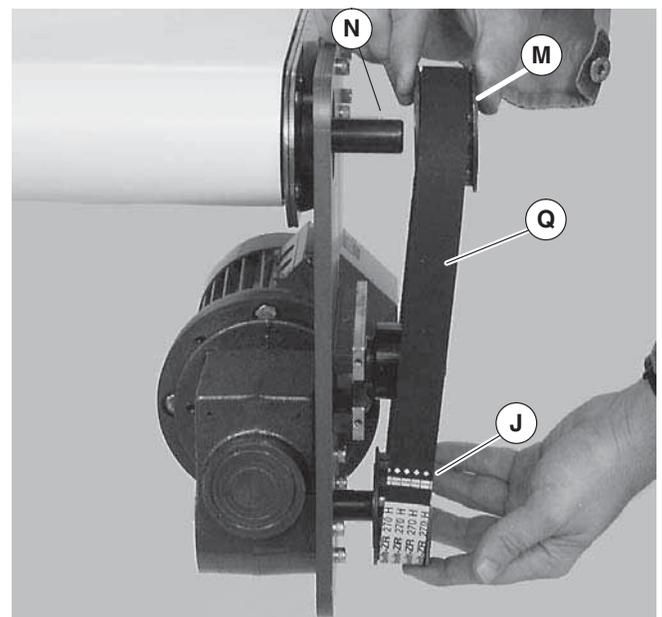

Figure 8
5. Install key (Figure 8, item N).